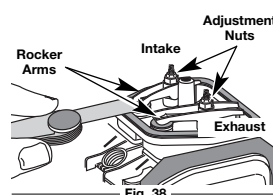

Fig. 38
- Slide the feeler gauge between the rocker arm and the valve return spring. Measure the clearance between the valve stem and rocker arm (Fig. 38). Measure both the intake and exhaust valves.
The recommended clearance for both intake and exhaust is .003 – .006 in. (.076 – 0.152 mm). Use a standard automotive .005 in. (.127 mm) feeler gauge. The feeler gauge should slide between the rocker arm and valve stem with a slight amount of resistance, without binding. See Figures 38 and 39.